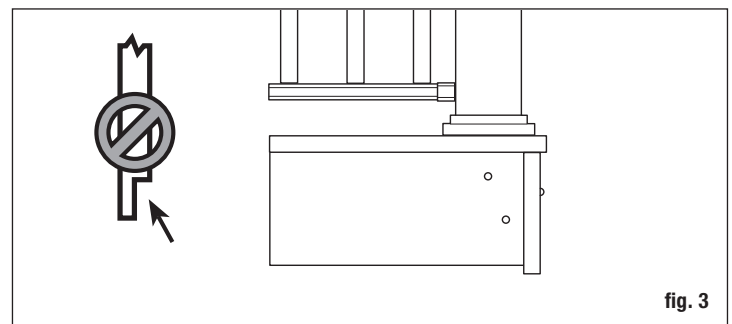

fig. 3
Step 2 Install railing posts prior to installing deck boards. Cedar or pressure-treated pine 4x4 railing posts or a post mount provides the structural strength for the railing. The length of each post is determined by the total of the joist width (typically 7-1/4") + decking thickness (1") + railing height (36") + spacing for post cap (2") = 46-1/4". **Important: Do not notch the 4x4 railing posts. Notching will reduce the strength of the post and could result in railing collapse or failure (fig. 3).** Use structural post mounts for installation on concrete.
Step 3 Position, plumb with a level, and clamp the railing post on the interior face of the joist. Plumb again. The 4x4 railing post should be bolted to the inside of the joist using two 1/2" x 6" galvanized carriage bolts. Corner posts use a third carriage bolt inserted through the adjacent joist (fig. 3).